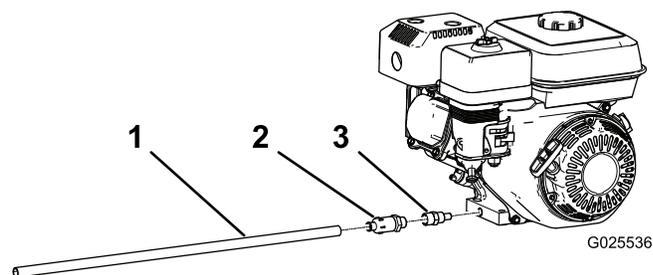

Figure 2
5. Install the oil-drain adapter into the oil-drain hole (Figure 2).
6. Install the oil-drain valve into the oil-drain adapter (Figure 2).